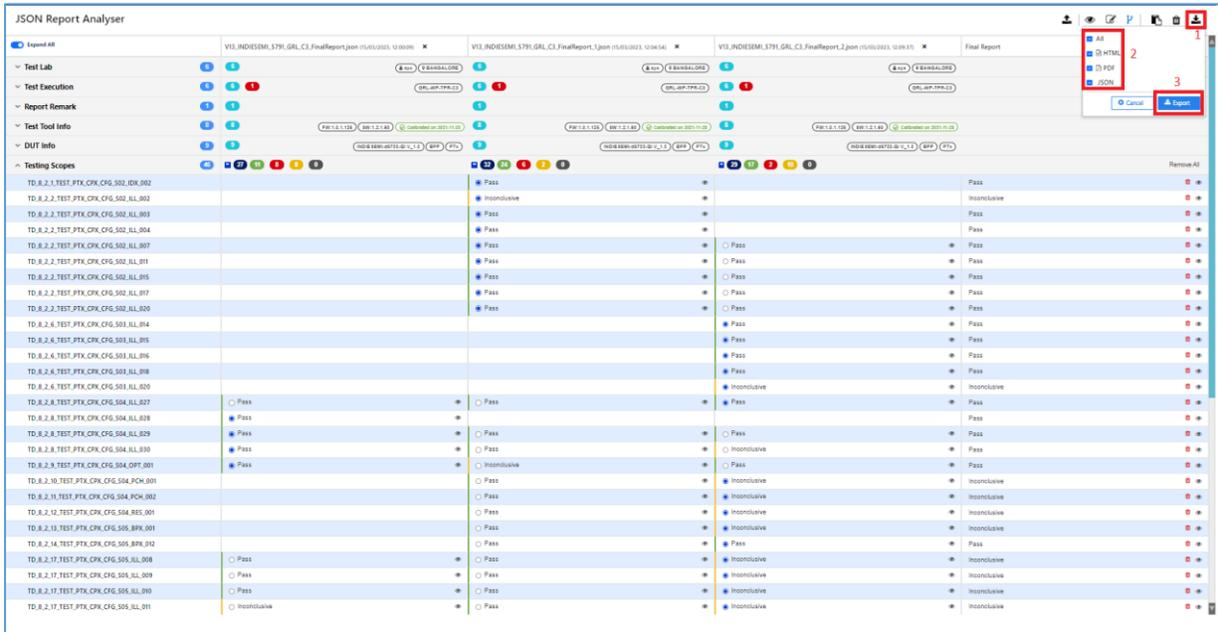

FIGURE 8.92: DOWNLOAD/EXPORT JSON REPORT FILES
1. Click on the Download icon at the top right of the JSON Report Analyser screen as shown in Figure 8.92 below.